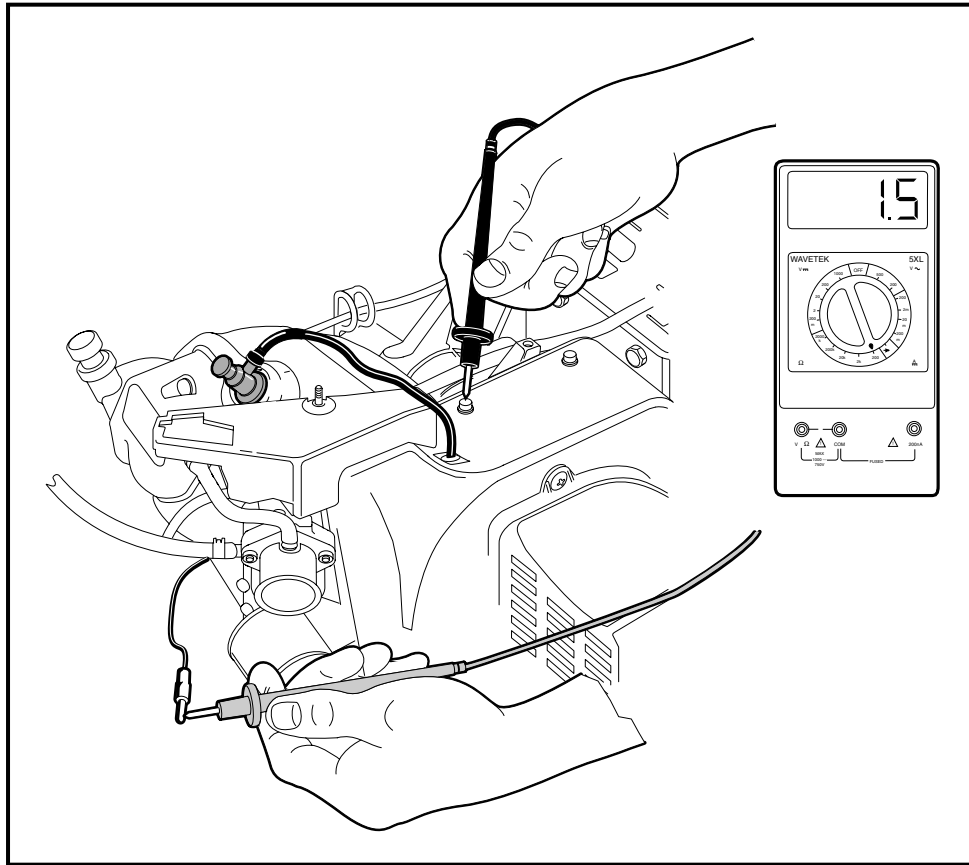

Figure 11a-43 Primary Coil Resistance – In Vehicle Test
- 3.1. Place the red (+) probe of the meter into the end of the spark plug cap that normally connects to the spark plug and place the black (–) probe on a clean unpainted surface of the engine or frame (**Figure 11a-44, Page 11a-38**).